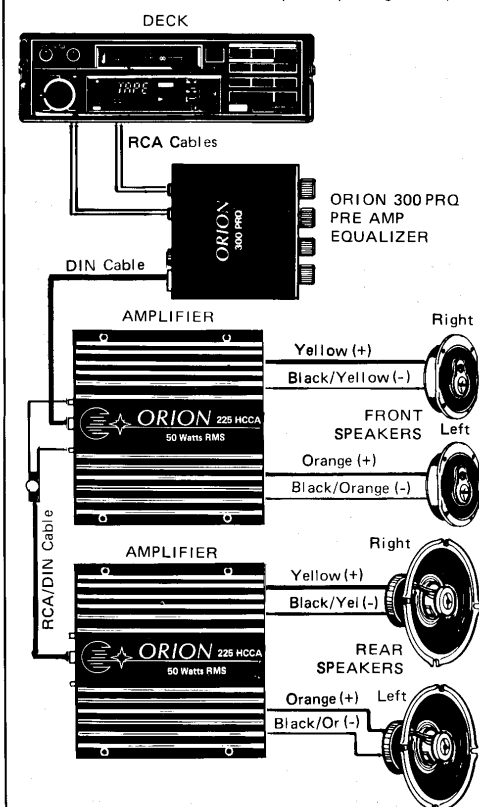

Figure 3. Basic Two-Amplifier System Using Equalizer and Existing Front and Rear Speakers
(2) **Front and Rear Speakers.** If your car is equipped with front and rear speakers, you will want to use a separate amplifier for each pair of speakers as shown in figure 3. A single 4-channel 425 HCCA could also be used for this system (see figure 16).